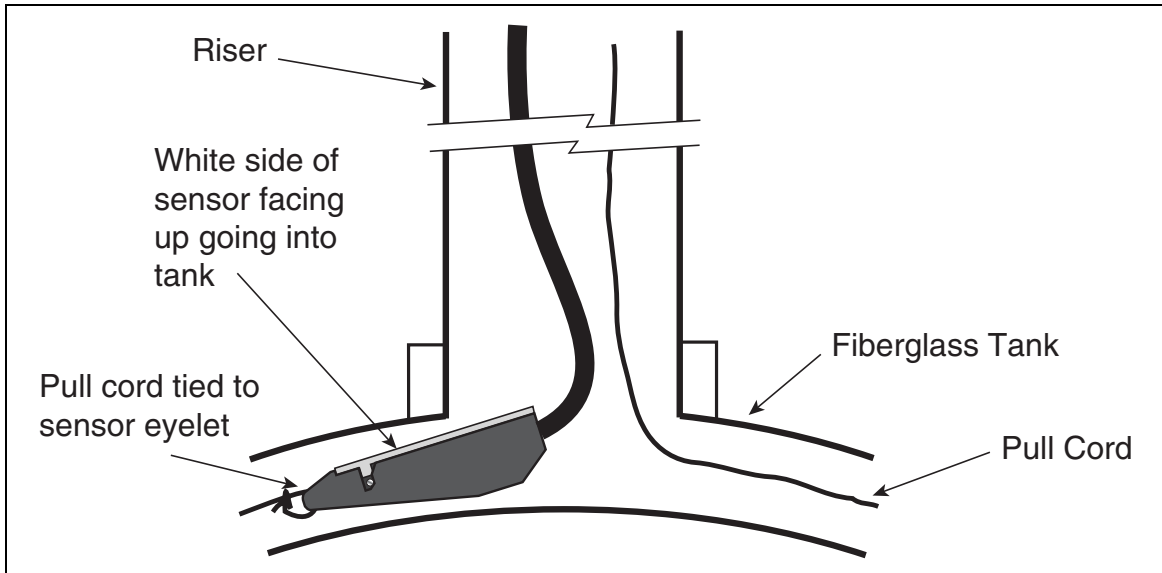
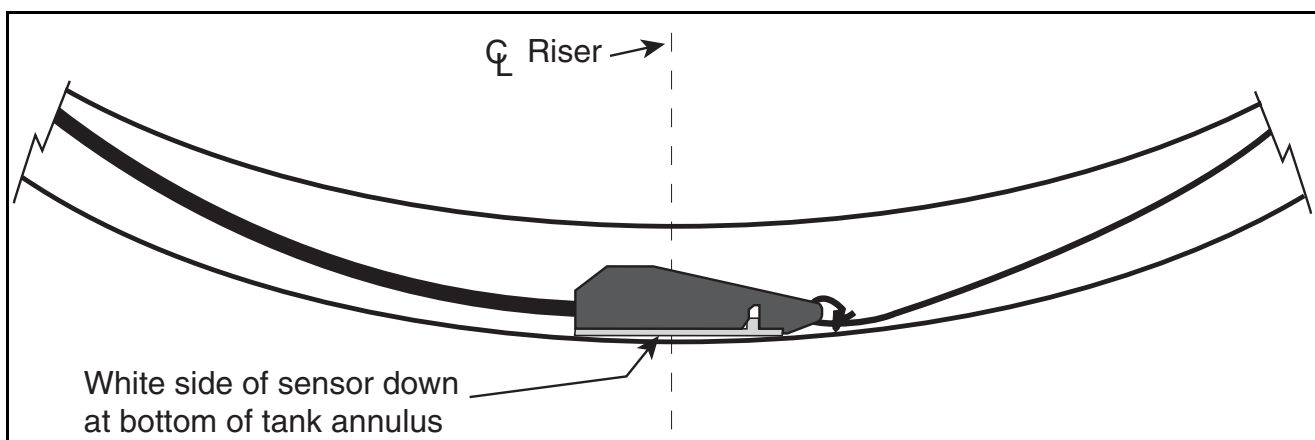

Figure 3. Correct Sensor Orientation Entering Top Of Tank Annulus
Figure 4. Correct Sensor Orientation At Bottom Of Tank Annulus
5. Attach a pull cord to the eyelet in the sensor and after confirming correct entry orientation (ref. Figure 3), pull the sensor through the interstitial space until the cable marked tie wrap is even with the top of the riser pipe. NOTE: All sensor types should rest at the bottom of the tank as shown in Figure 4.
The switch assembly has a flat, white bottom for switch orientation during installation. When installing the sensor, start the sensor into the annulus with the white bottom piece facing up (Figure 3).
The switch will be orientated correctly at the bottom of the tank with the white bottom piece facing down (Figure 4).